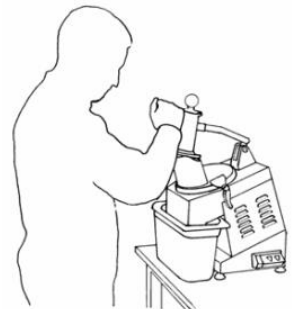

Fig. 11
- Maintain correct position during work to avoid accident. The body must be always in vertical position in relation to the work table (fig. 11). Stand in such way that none body part touches directly the turned on device.